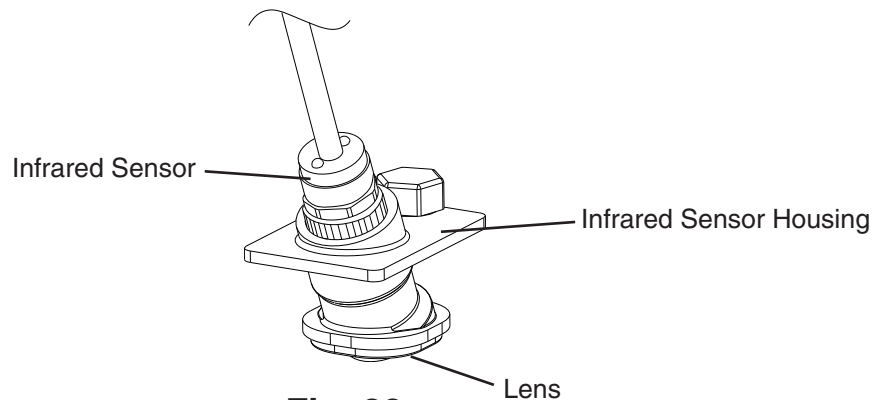

Fig. 22
- 11) Wipe down the infrared sensor's lens, (located on the bottom of the icemaker) with the cleaning solution. See Fig. 22. Next, rinse the cleaning solution off of the infrared sensor's lens with a clean, damp cloth.